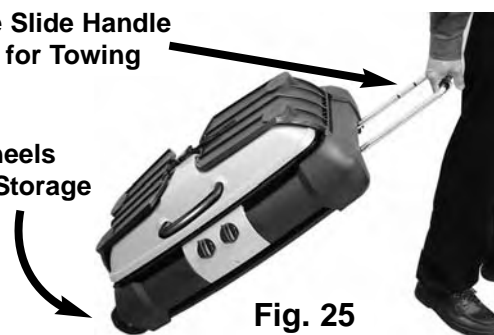

Fig. 25
- Grasp the Right side Handle Bar; lift Grill on wheels and roll the grill away to storage area. (FIG. 25) **DO NOT ATTEMPT TO CARRY THE GRILL BY GRASPING THE HOOD HANDLE**